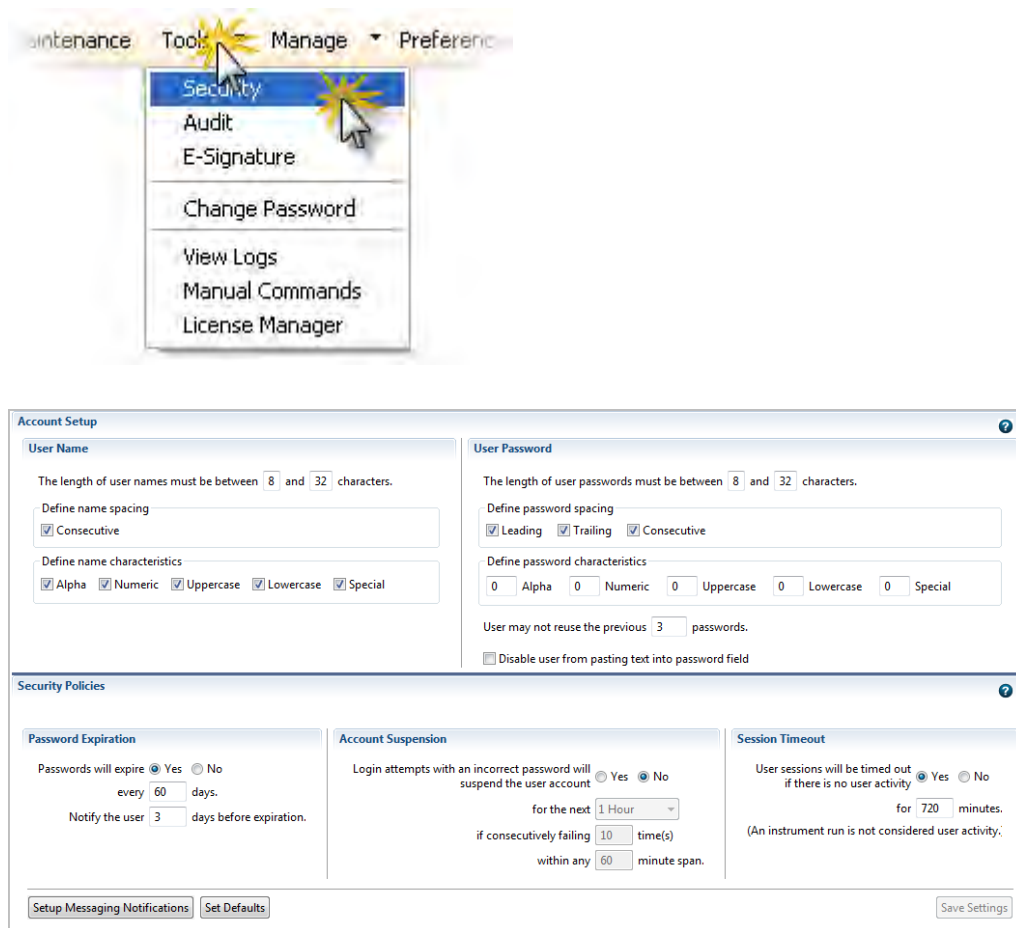

Figure 27 Security screen
1. In the **Security** screen (Figure 27), click **Setup Messaging Notifications** to display the **Setup Notifications** dialog box.